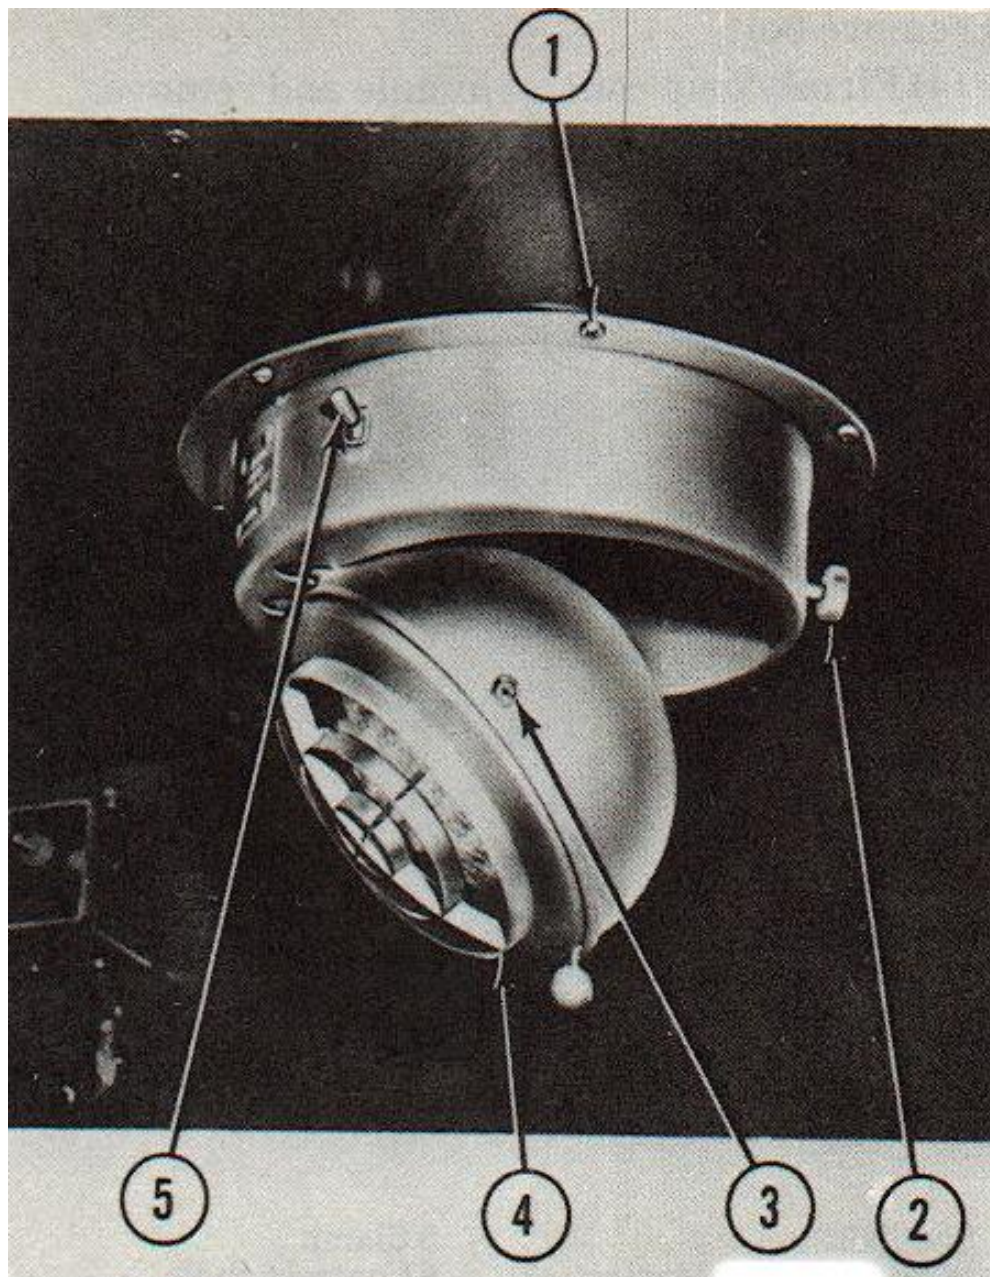

Figure 2-48. Surgical Light
q. Surgical Light Lamp Unit. (Fig 2-48)
- (1) Loosen setscrew and swing light down on ball hinge.
- (2) Remove two screws on opposite sides of lamp housing and pull grille, lens and sealed beam lamp unit from housing.
- (3) Disconnect wiring harness connectors from sealed beam terminals,
- (4) Pry back the three retainers which secure sealed beam unit to grille and remove sealed beam unit.
r. Surgical Light Housing. (Fig 2-48)
- (1) Remove six screws which secure housing to ceiling of patient compartment.
- (2) Drop light down and disconnect wiring harness connector.
(3) Remove surgical light housing.